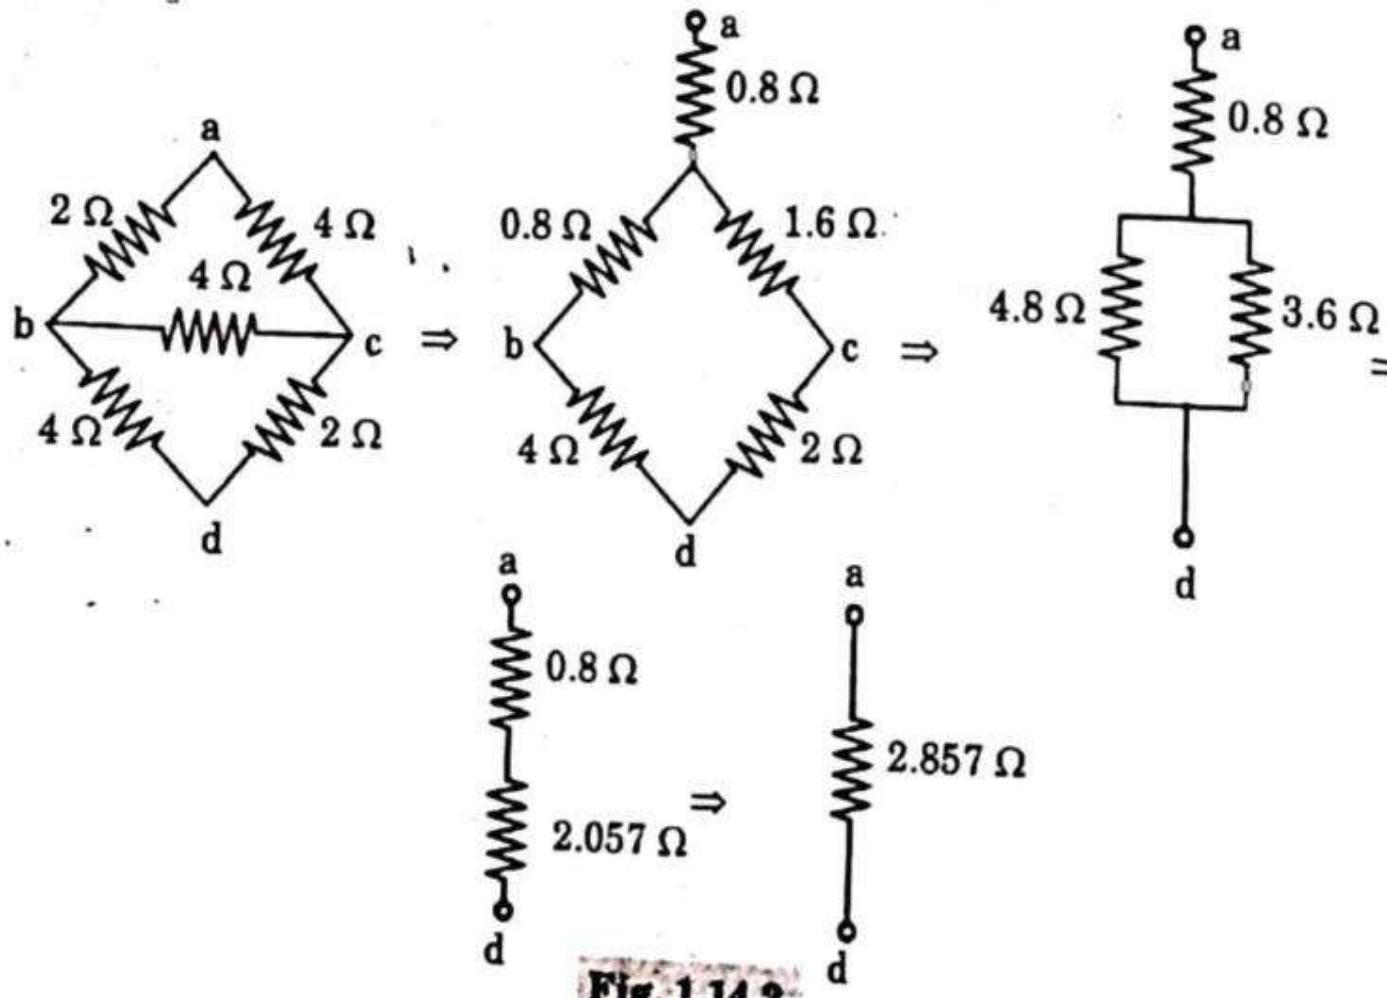

Fig. 1.14.2.
- Applying delta to star transformation, we get Fig. 1.14.2.